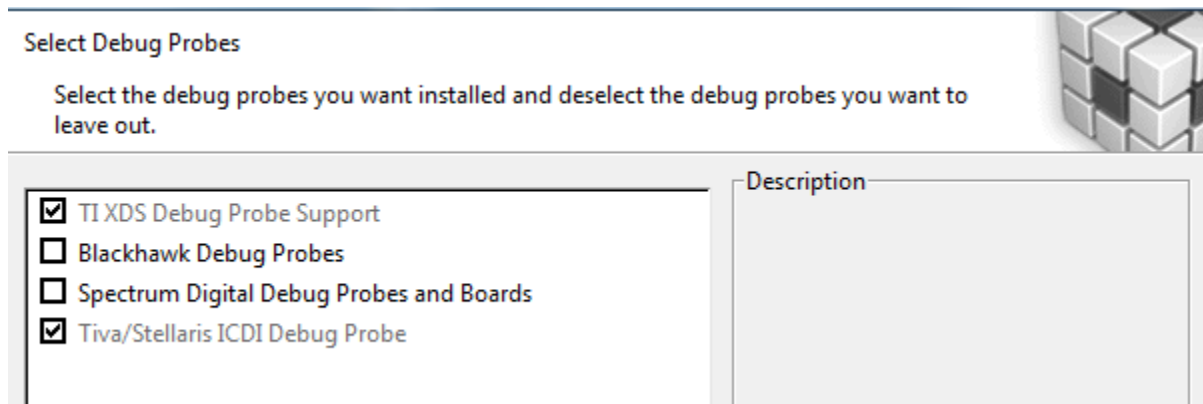

Figure 19, Debug Probe Options
- g. For Debug Probe Options, TI XDS and Tiva/Stellaris ICDI debug probe support are required (Figure 19). Press Next.